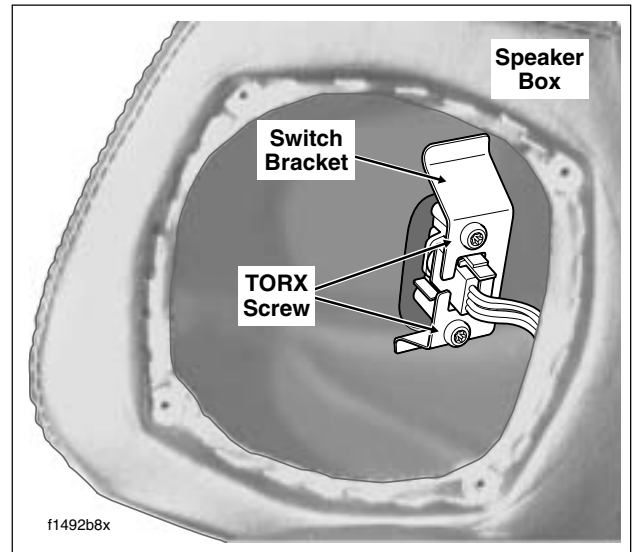

Figure 8-142. Remove Passenger Switch Assembly (Right Side Speaker Box Shown)
8. Using a T25 TORX drive head, remove two screws to release switch bracket from inside of speaker box. Remove bracket using slot to free switch wires. See Figure 8-142.